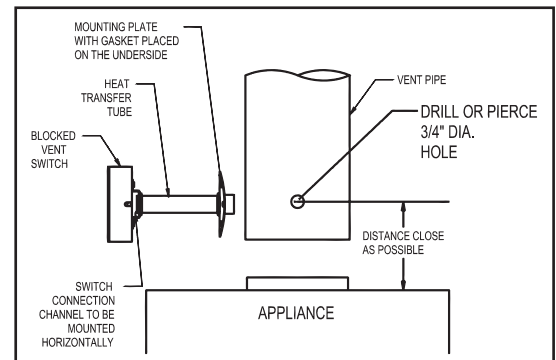

Figure 5
IF THE APPLIANCE MANUFACTURER DOES NOT SPECIFY A LOCATION, REFER TO FIGURE 5.
1. Drill or pierce a clean hole (about 3/4" diameter) in the vent pipe near the appliance outlet. (See Figure 5)
4. Secure the assembly to the vent pipe with a minimum of 4 sheet metal screws. The channel must be mounted horizontally, unless specified differently by the appliance manufacturer. (See Figure 5)